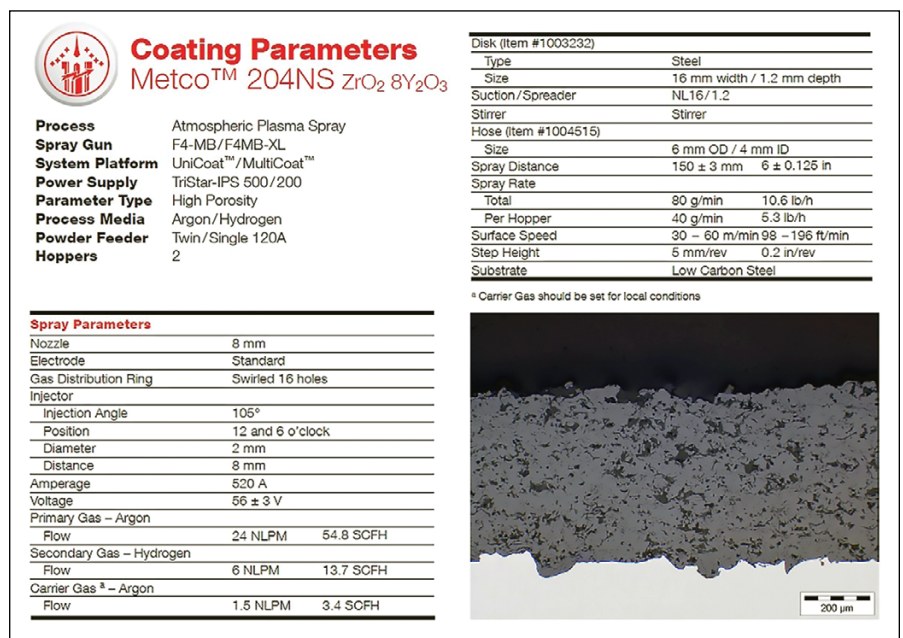

Fig. 1 — Coating parameter sheet for Metco 204NS sprayed through the F4-MB/F4MB-XL APS spray gun.
comes out of the "oven." For thermal spray, the usual format follows that of a spray parameter sheet — Fig. 1. Here, the idea is to control as many of the input parameters as possible to keep variability to a minimum. In this case, the parameter sheet calls up the material to be sprayed,
the gun hardware to be used, and the system input parameters required. Figure 1 also provides an indication of the resultant microstructure. Alongside this structural expectation, there will most likely be a set of coating properties that will need to be met. These will often be controlled by internal or customer test specifications.
Referring to our parameter sheet, detailed in Fig. 1, you can see that process gas flows and plasma energy levels need to be controlled. The latter is primarily defined by electrical power and as mentioned previously, is reported in watts (typically kW) calculated as current (A) multiplied by voltage (V). The voltage is produced as a result of the ionization process and is a good feedback tool for monitoring system robustness. This is especially true for traditional single electrode APS systems as the voltage (and therefore the power) tends to degrade as consumable hardware ages. This is not so much the case with cascaded plasma systems.